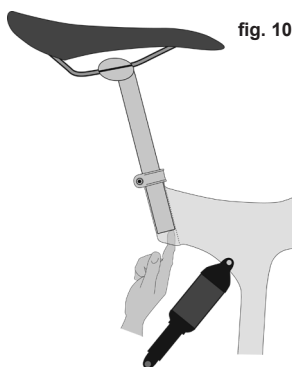

fig. 10
**Also see NOTE above and fig. 10.**